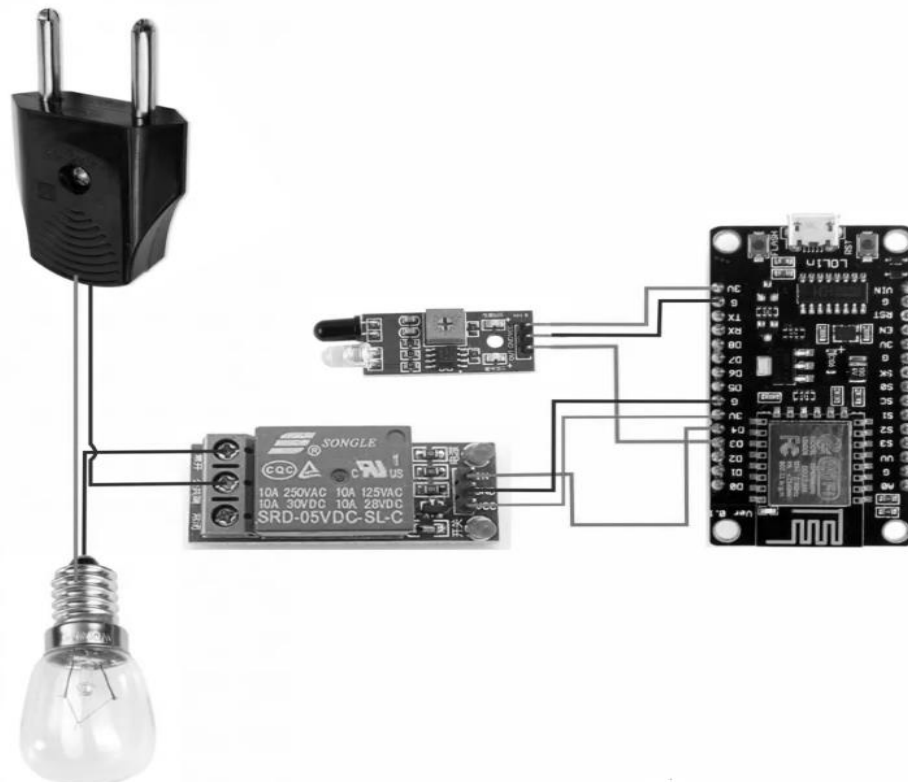

Figure 3.3: Circuit diagram of interfacing NodeMCU with IR sensor for controlling relay
- 1 Interface LED to NodeMCU as per circuit diagram shown in fig. 3.3.